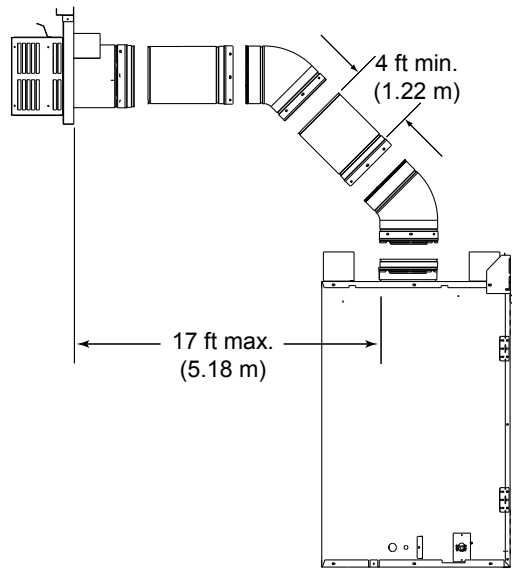

Figure 4.8
To replace the first starter elbow with two 45° elbows, refer to Figure 4.8 All other 90° elbows can be replaced with two 45° elbows.
- Elbows may be placed back to back anywhere in the system as long as the first 90° elbow is a starter elbow except as shown in Figure 4.8.